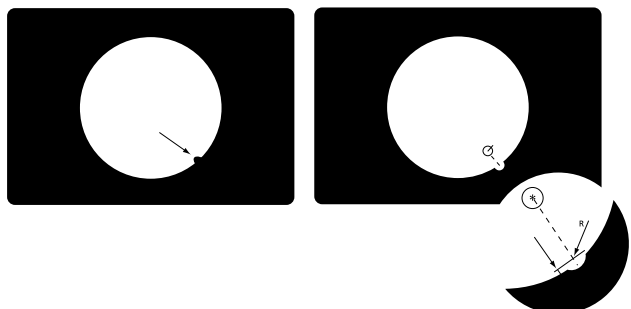

Fig. 6.14
- Sometimes the run-up to an internal contour can be an obstacle, e.g. for pushing through a pipe. In that case, consider a run-up notch. (Fig. 6.14)